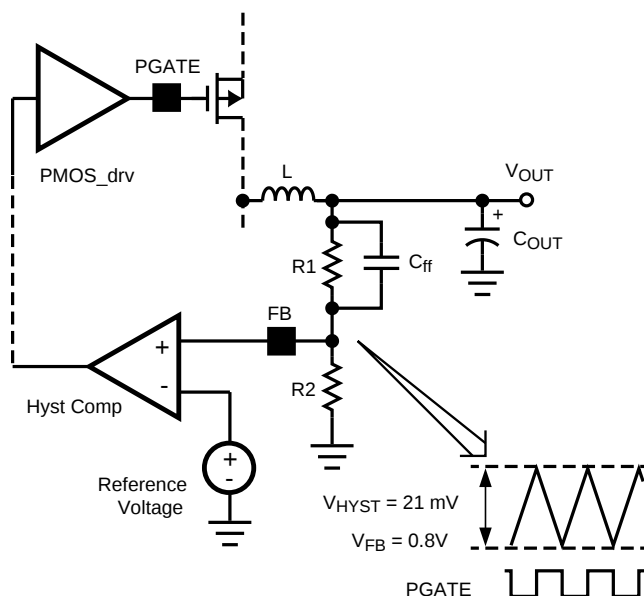

Figure 11. Hysteretic Window
The output voltage is programmed using a resistor divider between V_{OUT} and GND as shown in Figure 11. The feedback resistors can be calculated as follows:
The operating frequency and output ripple voltage can also be significantly influenced using a speed up capacitor, C_{ff} , as shown in Figure 11. C_{ff} is connected in parallel with the high side feedback resistor, $R1$. The output ripple causes a current to be sourced or sunk through this capacitor. This current is essentially a square wave. Since the input to the feedback pin (FB) is a high impedance node, the bulk of the current flows through $R2$. This superimposes a square wave ripple voltage on the FB node. The end result is a reduction in output ripple and an increase in operating frequency. When adding C_{ff} , calculate the formula above with $\alpha = 1$. The value of C_{ff} depends on the desired operating frequency and the value of $R2$. A good starting point is 1nF ceramic at 100kHz decreasing linearly with increased operating frequency. Also note that as the output voltage is programmed below 1.6V, the effect of C_{ff} will decrease significantly.